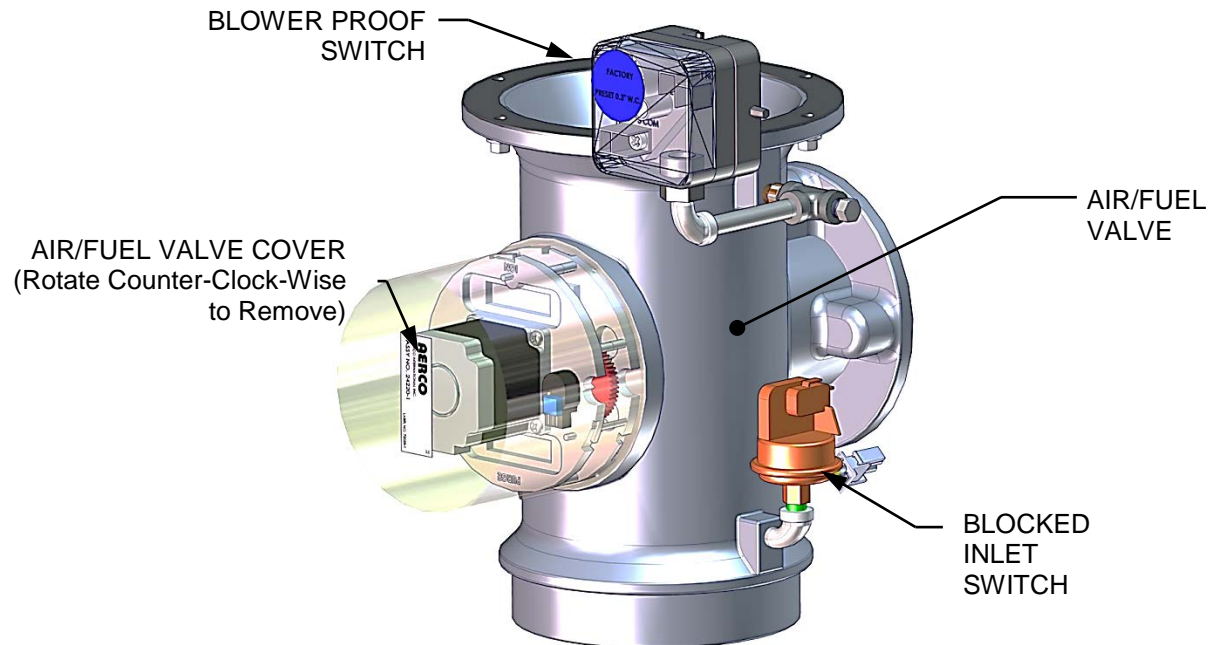

Figure 5-9a: Air/Fuel Valve Cover Location – BMK 1500 – 3000
3. Remove the Air/Fuel Valve cover by rotating the cover counterclockwise to unlock it (see Figure 5-9a and 5-9b).